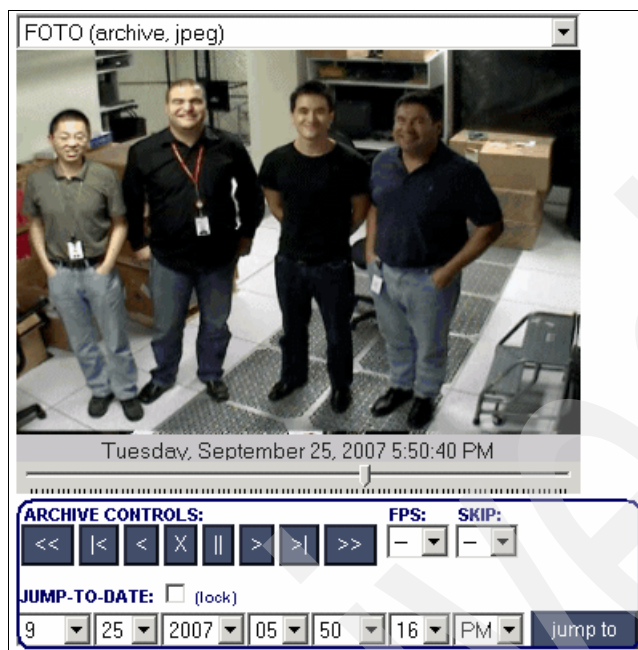

Figure 8-50 Video screen control in 'extract clip' page
2. In this page, you can control your video show using the buttons in the ARCHIVE CONTROLS section. You can also input a specific time that you want to monitor in the JUMP-TO-DATE field, as shown in Figure 8-50 on page 289.